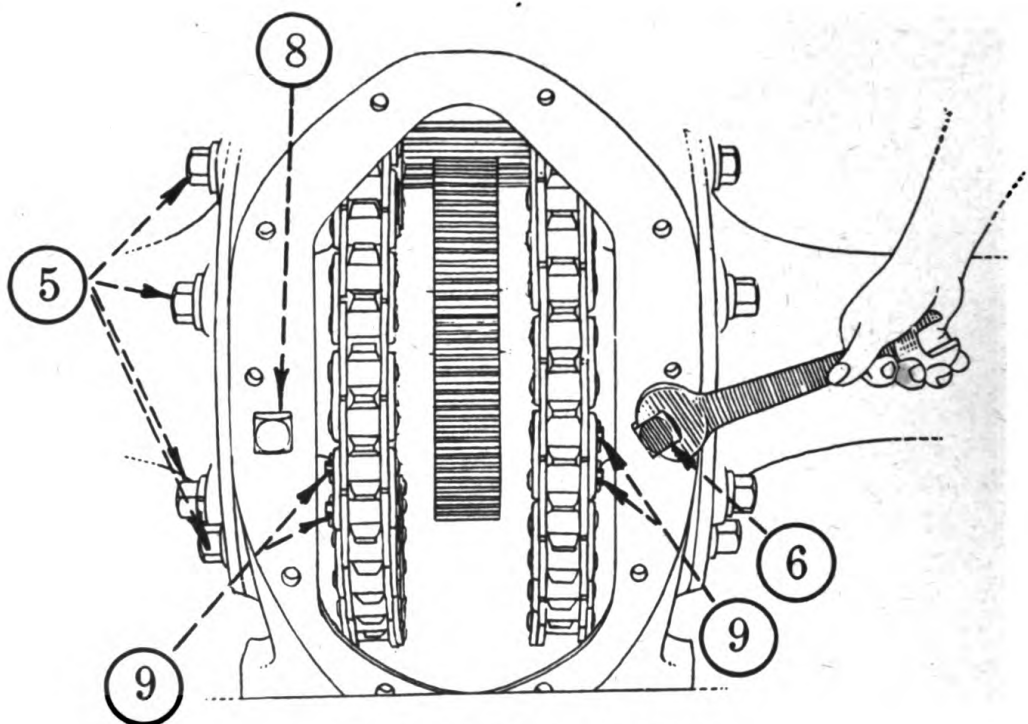

Fig. 37. Tightening Drive Chains
To tighten the drive chains, place a jack under the transmission case or drawbar so that the drive wheels are clear of the ground. The rear end of transmission can be raised so that the oil flows to the front of the case. Take off the rear cover of the transmission, loosen the six nuts on each side, (5) Fig. 37, which hold the rear axle housings to the transmission case so that axle housing can be shifted.
As illustrated at (8) Fig. 37, the head of adjusting bolts should be set square so that the recess in rear of the transmission cover will fit over it locking the bolt from turning.
If it is necessary to remove either chain, or both, take out the cotter pins, shown at (9) Fig. 37, and remove the master link; chain may then be removed easily. After chains have been adjusted, be sure to check brake and clutch adjustment.